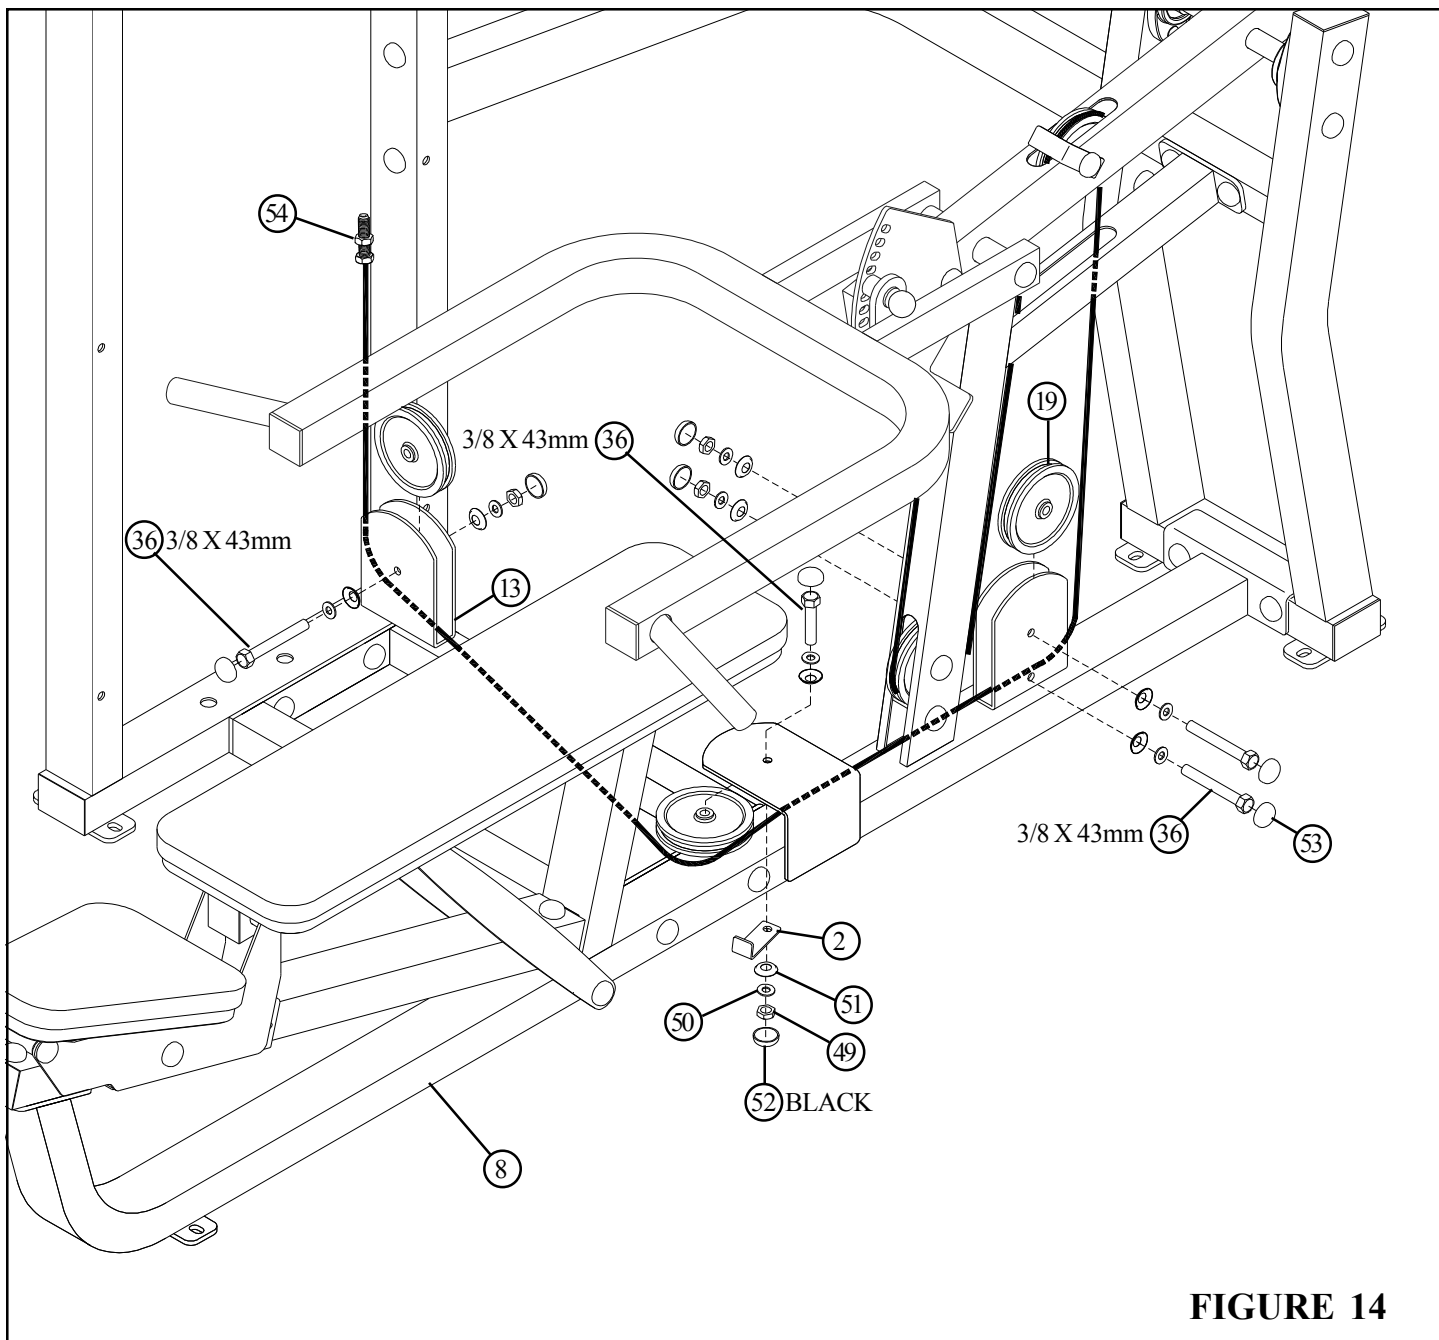

FIGURE 14
- Route the MULTI PRESS CABLE (54) through the vertical bracket on the PRESS FRAME (8) and **SECURELY** assemble one 4-1/2" PULLEY (19) to the bracket using four RH CAPS (53), two 3/8 X 43mm BOLTS (36), four 3/8" SAE WASHERS (50), four 3/8" RH WASHERS (51) and two 3/8" LOW HEIGHT LOCK NUTS (49) as shown in FIGURE 14.
- Route the MULTI PRESS CABLE (54) through the PRESS FRAME (8) and the horizontal bracket on the PRESS FRAME (8) and **SECURELY** assemble one 4-1/2" PULLEY (19) to the bracket using one BLACK RH CAP (52), one RH CAP (53), one 3/8 X 43mm BOLT (36), two 3/8" SAE WASHERS (50), two 3/8" RH WASHERS (51), one 3-1/2 X 1" CABLE CLIP (2) and one 3/8" LOW HEIGHT LOCK NUT (49) as shown in FIGURE 14.
- Route the MULTI PRESS CABLE (54) through the vertical bracket on the BASE (13) and **SECURELY** assemble one 4-1/2" PULLEY (19) to the bracket using two RH CAPS (53), one 3/8 X 43mm BOLT (36), two 3/8" SAE WASHERS (50), two 3/8" RH WASHERS (51) and one 3/8" LOW HEIGHT LOCK NUT (49) as shown in FIGURE 14.